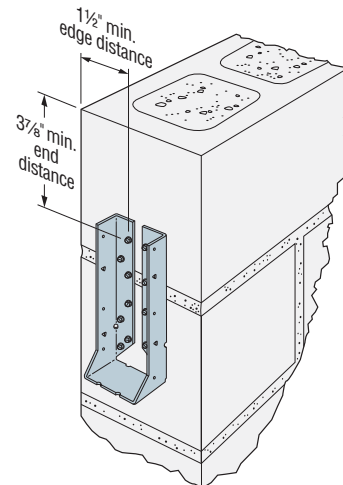

Figure 1 — HUC410 Installed on Masonry Block End Wall
- A minimum edge distance of  $1\frac{1}{2}$ " and minimum end distance of  $3\frac{7}{8}$ " is required as shown in Figure 1 for full uplift load.